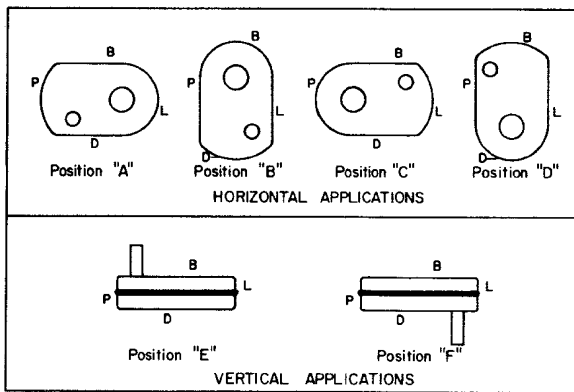

Fig. 1 — Mounting Positions
2. Determine the running positions of the reducer. (See Fig. 1) Note that the reducer is supplied with 4 or 7 plugs; 4 around the sides for horizontal installations and 1 on each face for vertical installations. These plugs must be arranged relative to the running positions as follows:
The running position of the reducer in a horizontal application is not limited to the four positions shown in Figure 1. However, if running position is over  $20^\circ$  either way from sketches, the oil level plug cannot be safely used to check the oil level, unless during the checking the torque arm is disconnected and the reducer is swung to within  $20^\circ$  of the positions shown in Figure 1. Because of the many possible positions of the reducer, it may be necessary or desirable to make special adaptations using the lubrication fitting holes furnished along with other standard pipe fittings, stand pipes and oil level gages as required.